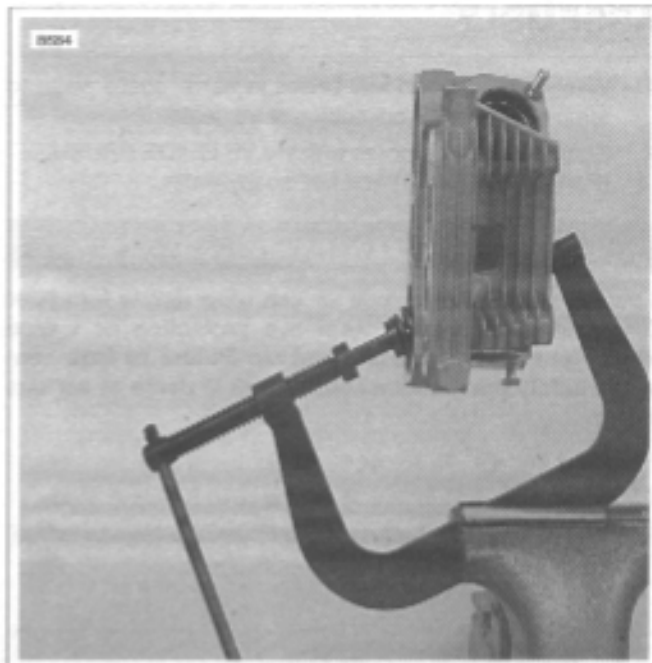

Figure 3-84. Valve Spring Compressor (Part No. HD-34736B)
9. See Figure 3-84. Compress spring with **VALVE SPRING COMPRESSOR** (Part No. HD-34736B).